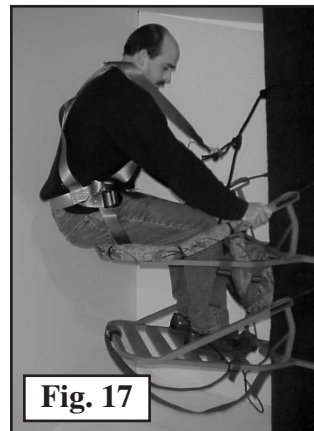

Fig. 17
Step 3. Place the Viper Classic Seat at about knee level, sit on the padded bar, and grasp the upright arms as you did in climbing (see **Figure 17**).